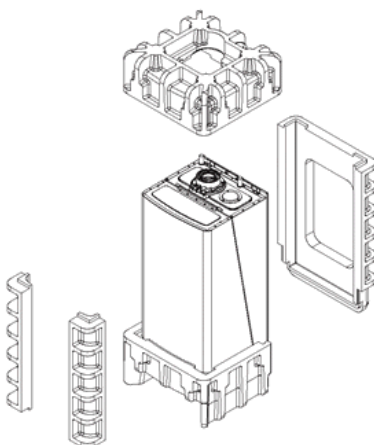

Fig. 23
- b) Remove the upper packaging to leave the appliance on the base packaging (Fig. 23).